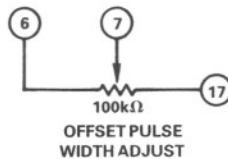

Figure 3.
-0.510V, which yields a nominal 200μs offset pulse with a 0.012μF integration capacitor. This offset pulse width may be adjusted by using a 100kΩ potentiometer as shown in Figure 3.